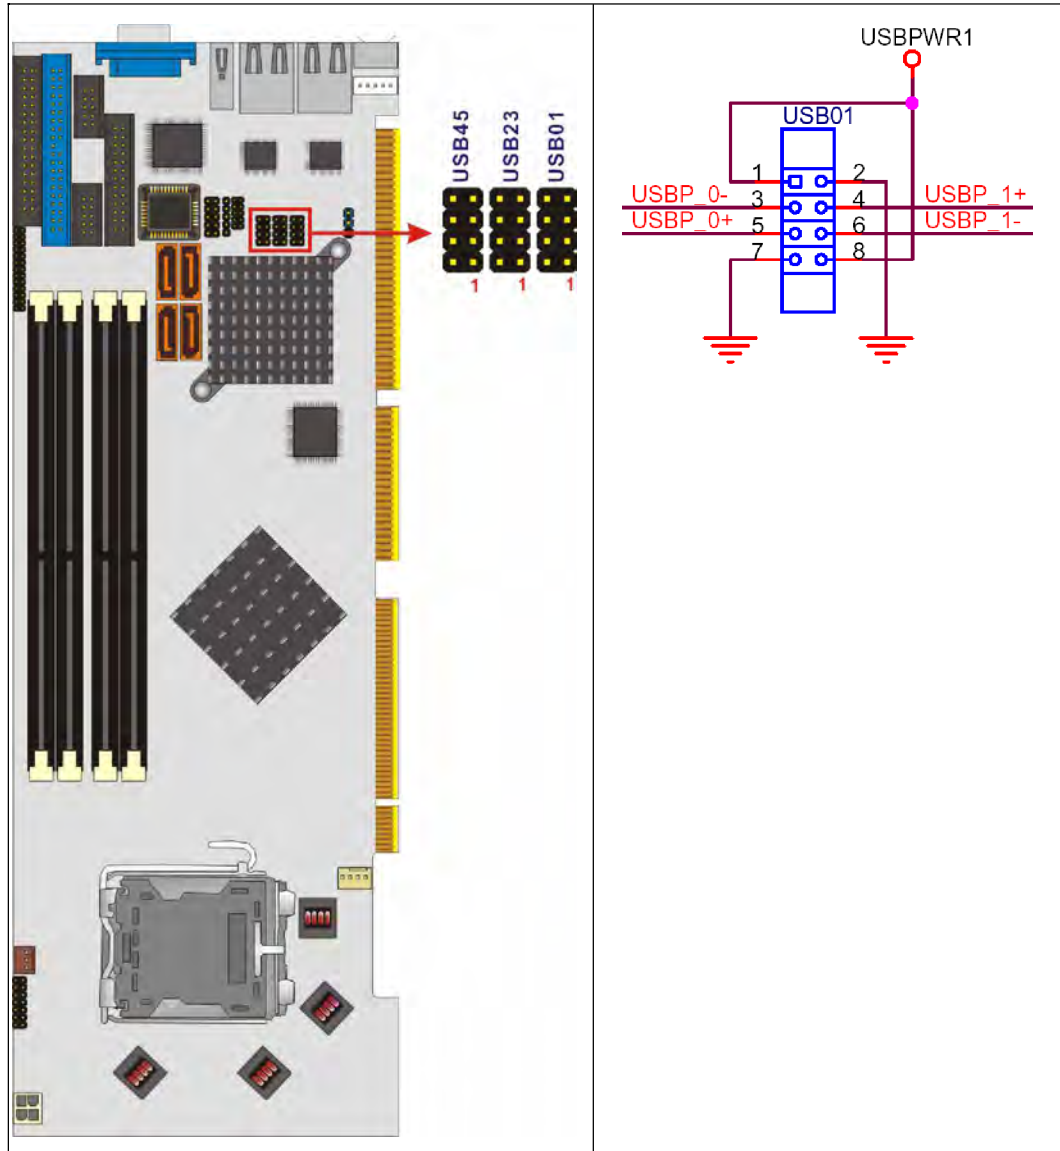

Figure 3-16: USB Port Connector Location
**CN Location:** See **Figure 3-16**